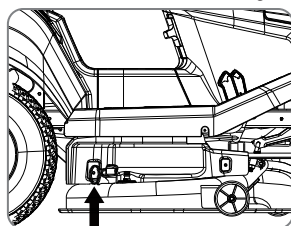

Fig. 47
4. Disassemble the tension spring of the cutterhead belt (Fig. 47), and separate one end of the spring from the hook on the cutterhead.